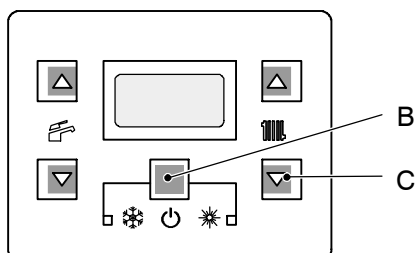

Fig. 9.11
- 7 To exit for setting without modifying the set press the keys (B – C Fig. 9.11)